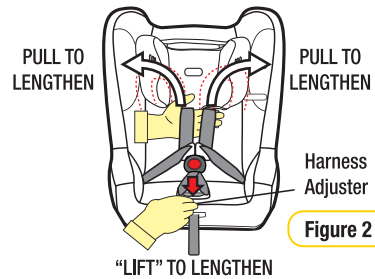

Figure 2
- Step 2:** To lengthen the harness “LIFT” the harness adjuster (refer Figure 2) whilst grasping both shoulder harness straps and pulling. Ensure shoulder straps are pulled equally on each side.